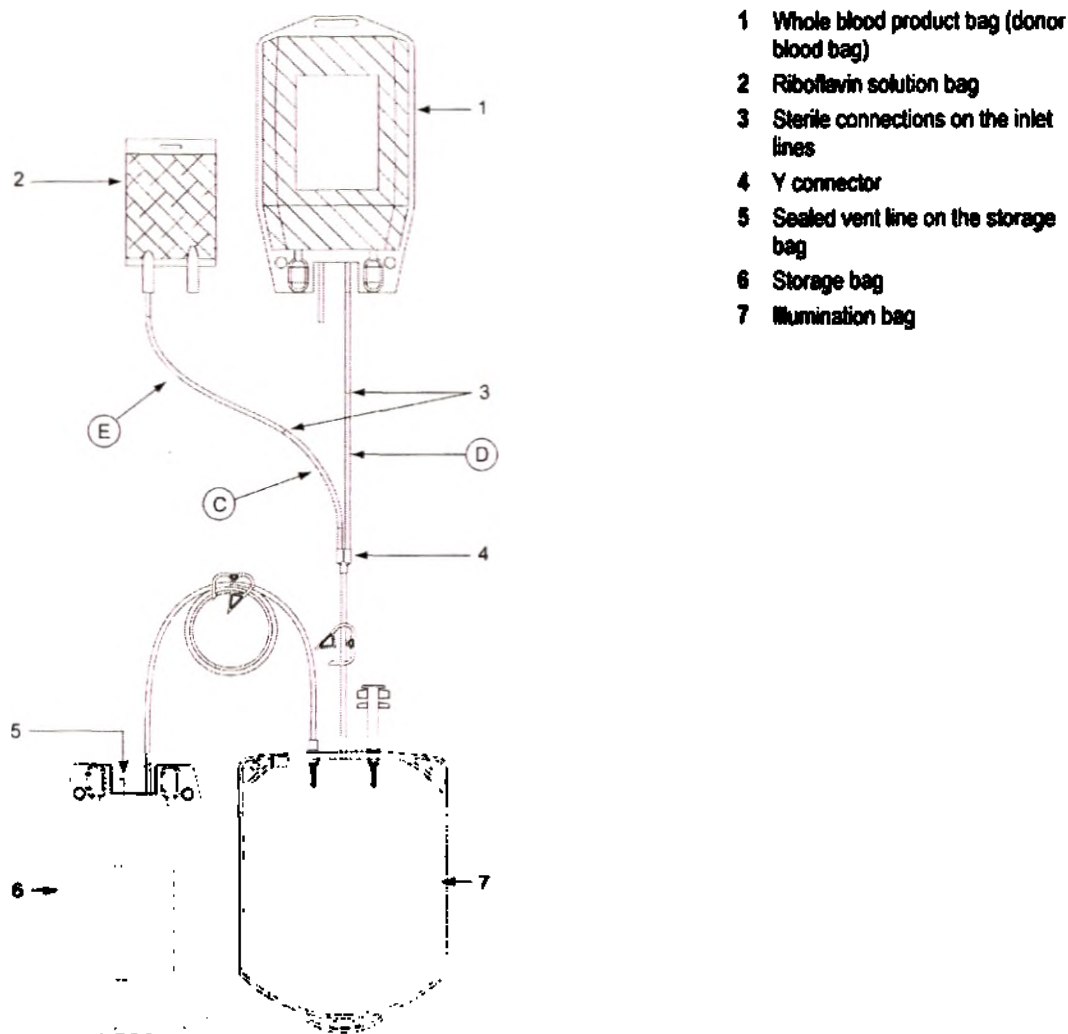

Figure 4: Transferring the Whole Blood product and the riboflavin solution into the illumination bag
- a. Using a sterile connection device, connect the tubing on the riboflavin solution bag (Line E) to the sealed inlet line on the illumination bag (Line D). See Figure 4.